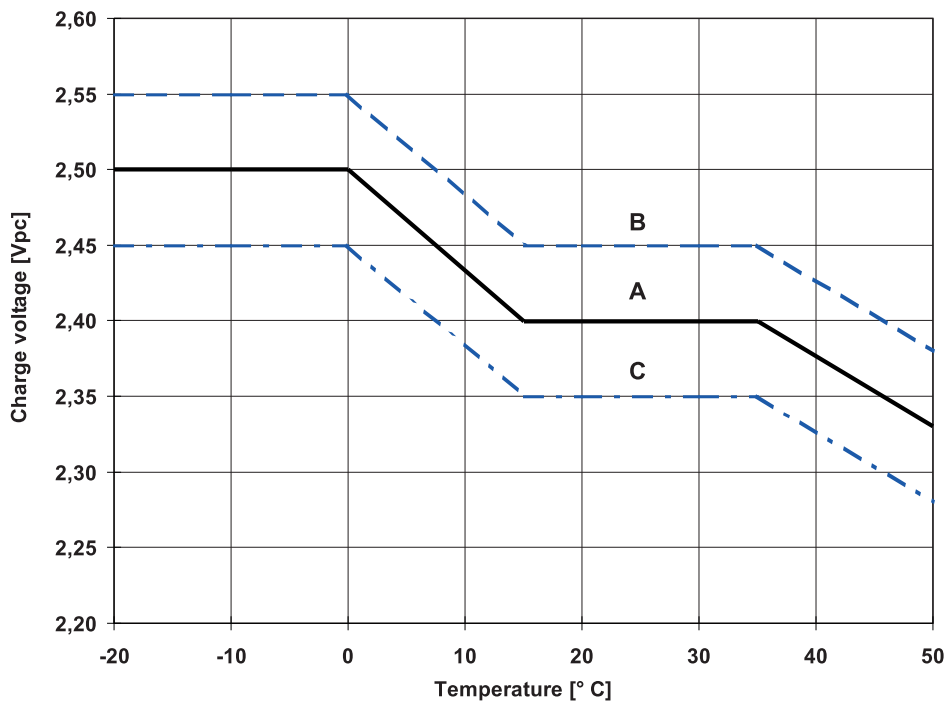

Fig. 1: Charge voltage vs. temperature for solar mode. Charge modes:
Recommended charge voltages for cyclical application: See fig. 1 and item 2.8.
I-phase = up to voltage acc. to fig.1 at 20° C
I-phase = up to voltage acc. to fig. 1 at 20° C
When recharging acc. to fig.1 the actual value of the alternating current is occasionally permitted to reach 10 A (RMS)/ 100 Ah C_{10} -capacity. In a fully charged state during float charge the actual value of the alternating current must not exceed 5 A (RMS)/ 100 Ah C_{10} -capacity.
The temperature related adjustment has to be carried out acc. to fig. 1. An adjustment of the charge voltage must not be applied within a temperature range 15° C to 35° C.